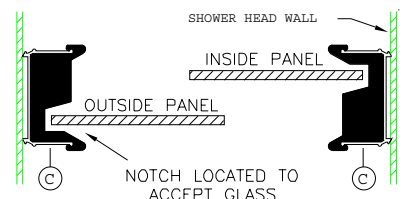

figure 6
10. Attach Panel Bumpers (F) to Wall Jamb using a 834P Installation Screw (G). Please note that notches on bumpers are positioned so as to accept glass insertion, see figure 6.